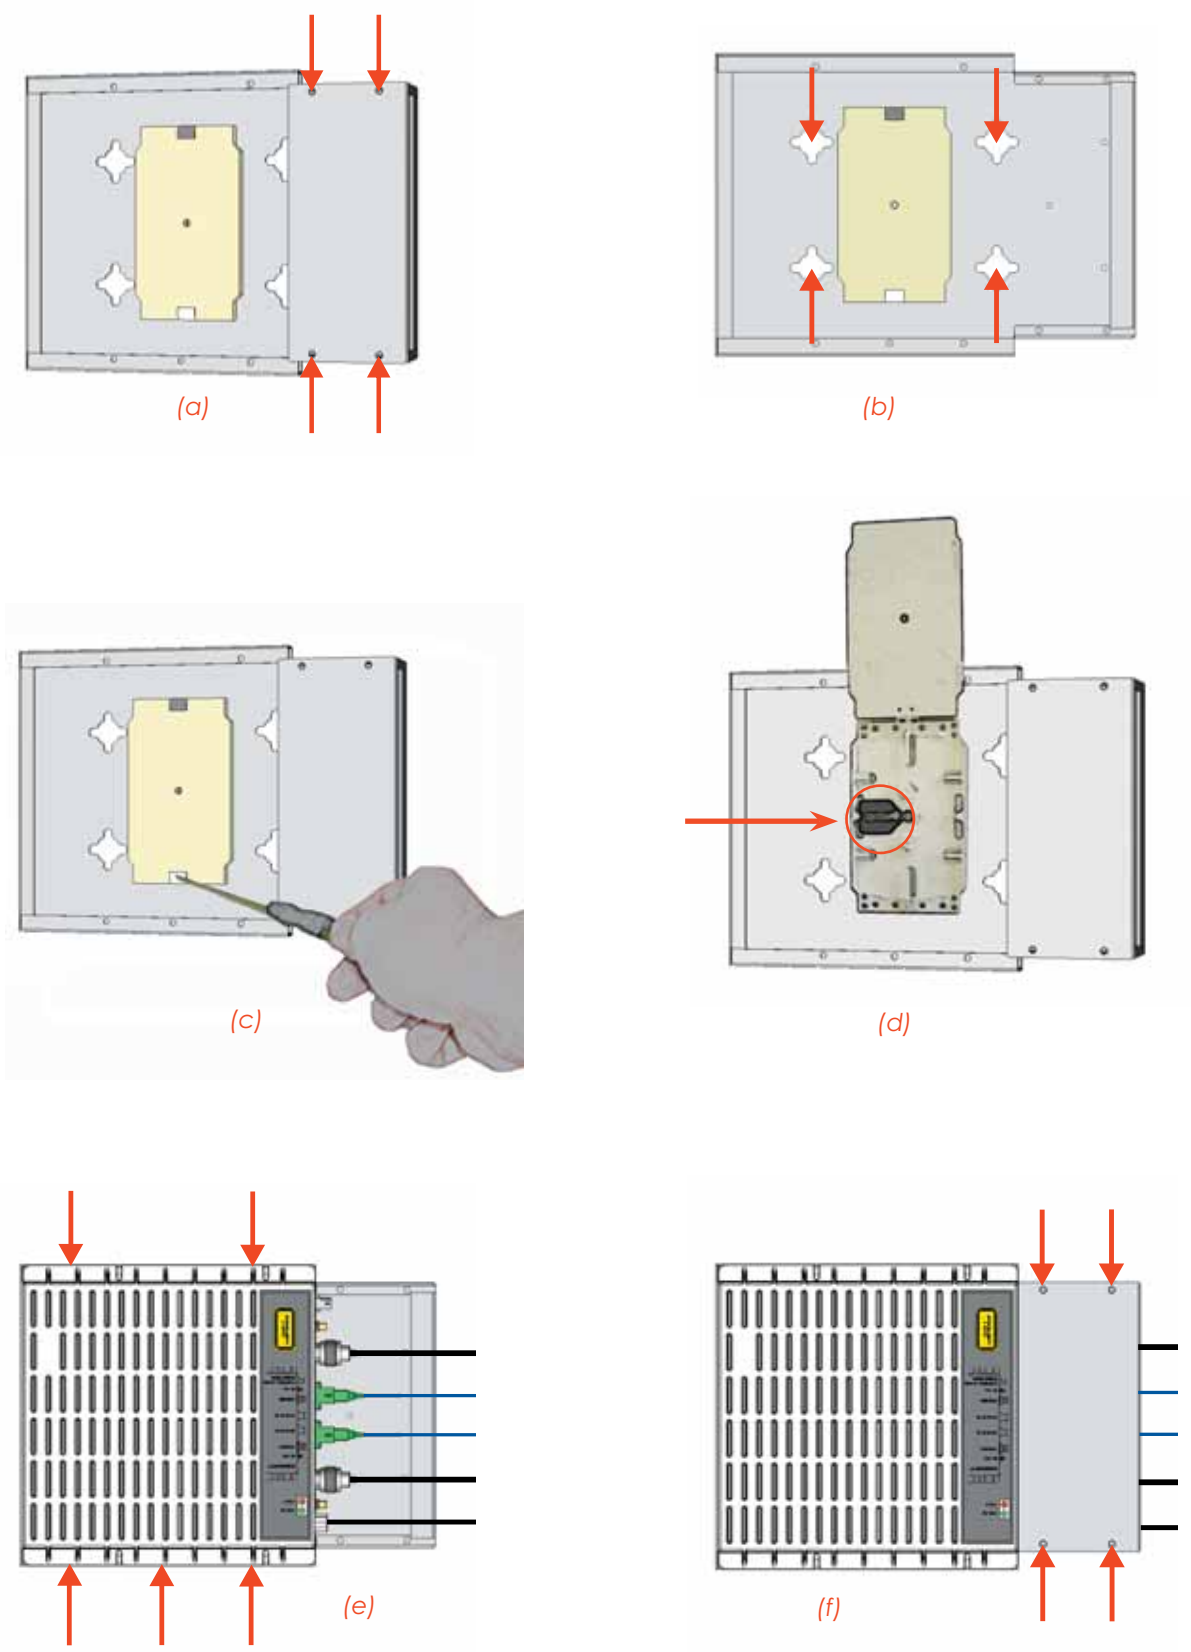

Figure 3.3.12: Mounting the TFAx Remote Unit with a TKA installation kit.
1. Unscrew the 4 screws which lock the lower cover of the TKA04 wall bearing (see Fig. 3.3.12 a)
6. Carefully open the splice tray by using a screwdriver as in Fig. 3.3.12 c. Fix the splice holder inside the splice tray (Fig. 3.3.6 a). Splice the optical fibres and close the splice tray. While handling the fibers, take care not to bend them. Close the splice tray.
9. Connect the antenna RF cables to the RF antenna ports. Connect the UL and DL optical connectors (Fig. 3.3.12 e). If the power cable has properly been connected to the mains, both the green and the red LEDs should turn on. The green LED will remain lit to indicate that the unit is powered on, while the red LED will turn off as soon as the local unit is switched on (for further details about the start up of the system, please refer to the section "TFax Case B Start-up")
10. Fix the lower cover by fastening the 4 screws (Fig. 3.3.12 f)